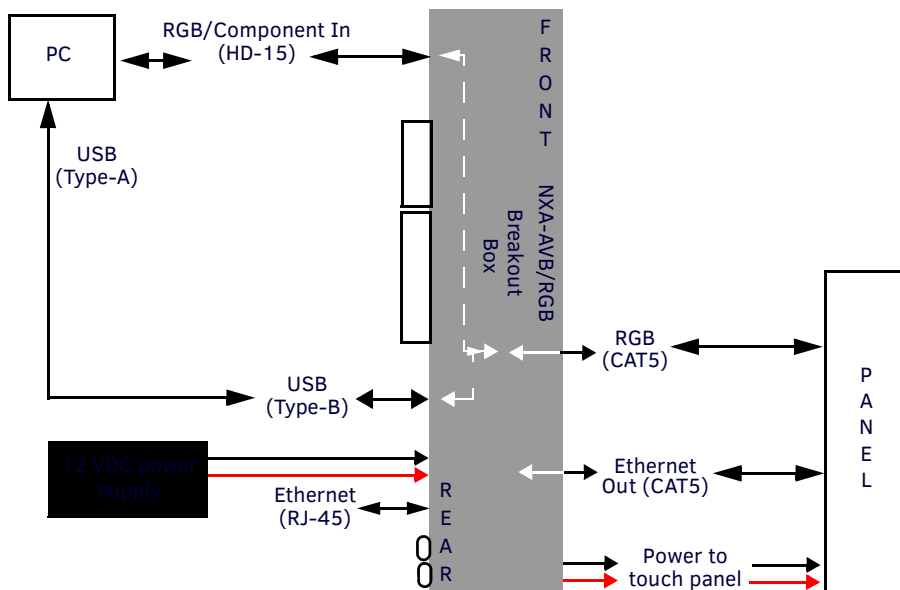

FIG. 7 Pass-thru control wiring configuration
- The pass-thru is routed from the USB Input device, through the panel, then through internal NXA-RGB card and to the front RGB RJ-45 connector on the NXA-AVB/RGB. From there the signal is routed through the rear USB port on the breakout box and finally to the target PC. Refer to FIG. 7 for a visual representation.
2. Turn-off your computer and remove any installed power cables. Review FIG. 7 for an overview of the overall wiring configuration surrounding pass-thru control.